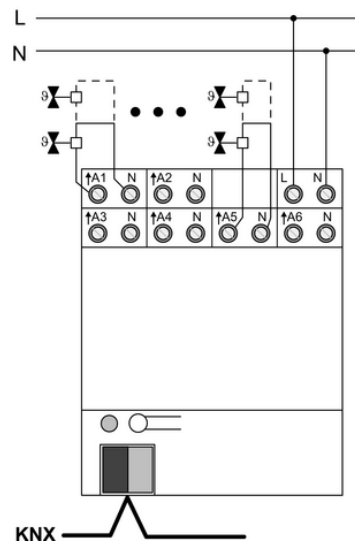

Figure 2
- Connect the outputs according to connection diagram (figure 2).
- Connect the mains voltage (figure 2).